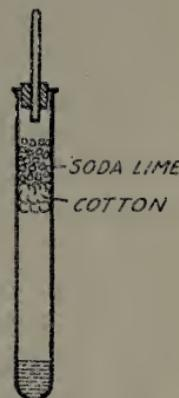

FIG. 29.
71. **Carbon Monoxide**.—Fit a 12-cm. test-tube with a stopper and short delivery tube as shown in Fig. 29. Put $\frac{1}{2}$ gram of oxalic acid in the tube and add 3 cc. of concentrated sulfuric acid. Put a plug of cotton in the tube, pushing it down about 6 cm. from the mouth. Put a layer of about 2 cm.